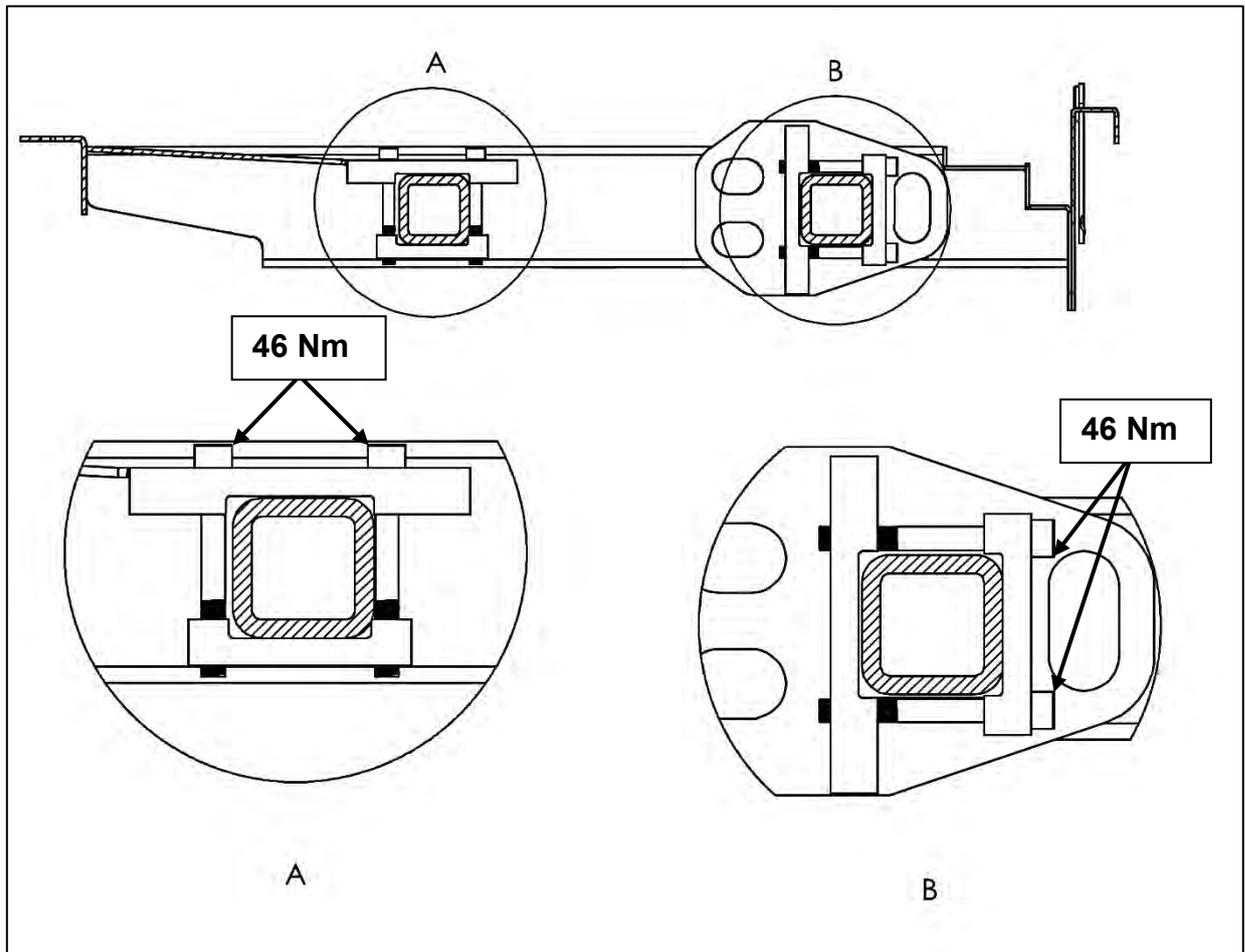

Figure 33
- Secure the installation adapters to the lifting gear and tighten to the specified torque of **46 Nm** (refer to torque table on page 65 and Fig. 33). The layout of the axles is symmetric, so please follow the same process on the other side as well.